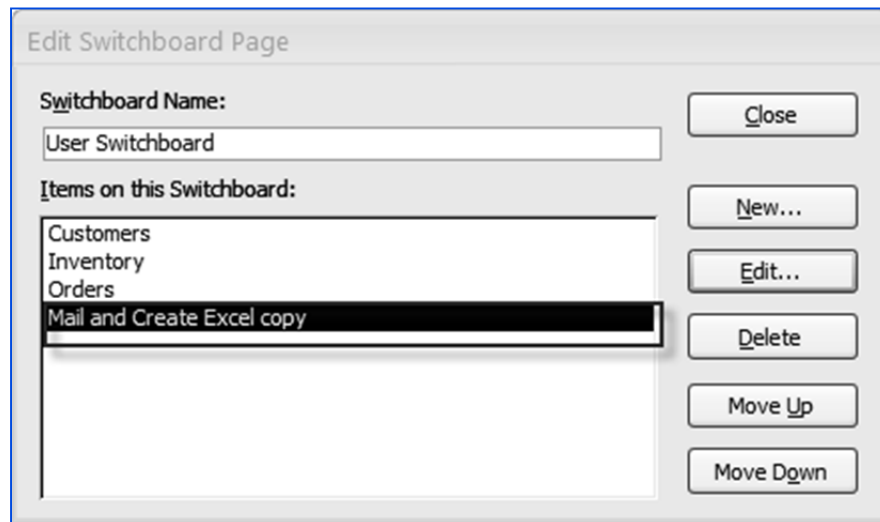

Fig. 4.3.26: Button appears in Edit Switchboard window
10. Click *OK* to close the *Edit Switchboard* window, the button appears in *Items* on the *Switchboard* tab, as shown in Fig. 4.3.26.